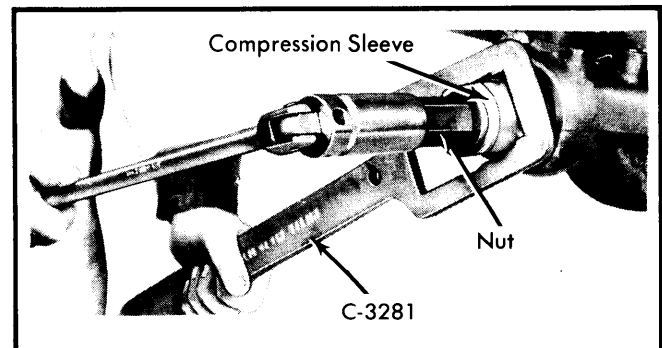

Fig. 4 Seating Pinion Bearing Cups
2) On 8 3/8" assembly, hold spacer and main stem assembly in position and install front pinion bearing over spacer (SP-5382) and position over main stem of tool. On 9 1/4" assembly, position spacer and main stem assembly in housing, then install front pinion bearing cone and washer (SP-6022). Procedure from this point is same for both assemblies except for tool numbers (see note in preceding step). Position suitable compression sleeve (SP-3194B), centralizing washer (SP-534), and main screw nut (SP-3193) on main stem. Hold compression sleeve with tool (C-3281) and tighten nut. Allow tool to rotate while nut is being tightened to prevent damaging bearings and cups. See Fig. 4.